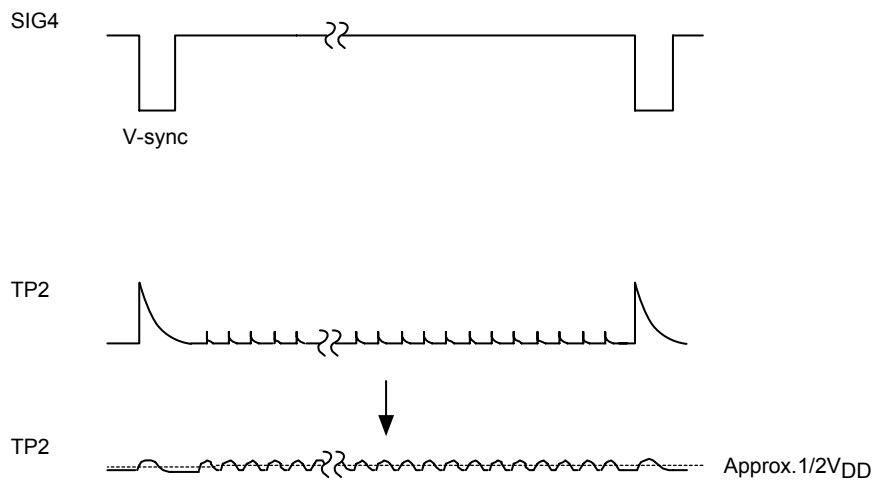

Fig.1-2 Horizontal AFC adjustment
Enter SIG4 ( $V_L = 0mV$ ) to (A) and adjust VCOADJ so that the width of WL and WH becomes equal in the TP2 output waveform.(See fig 1-2.)